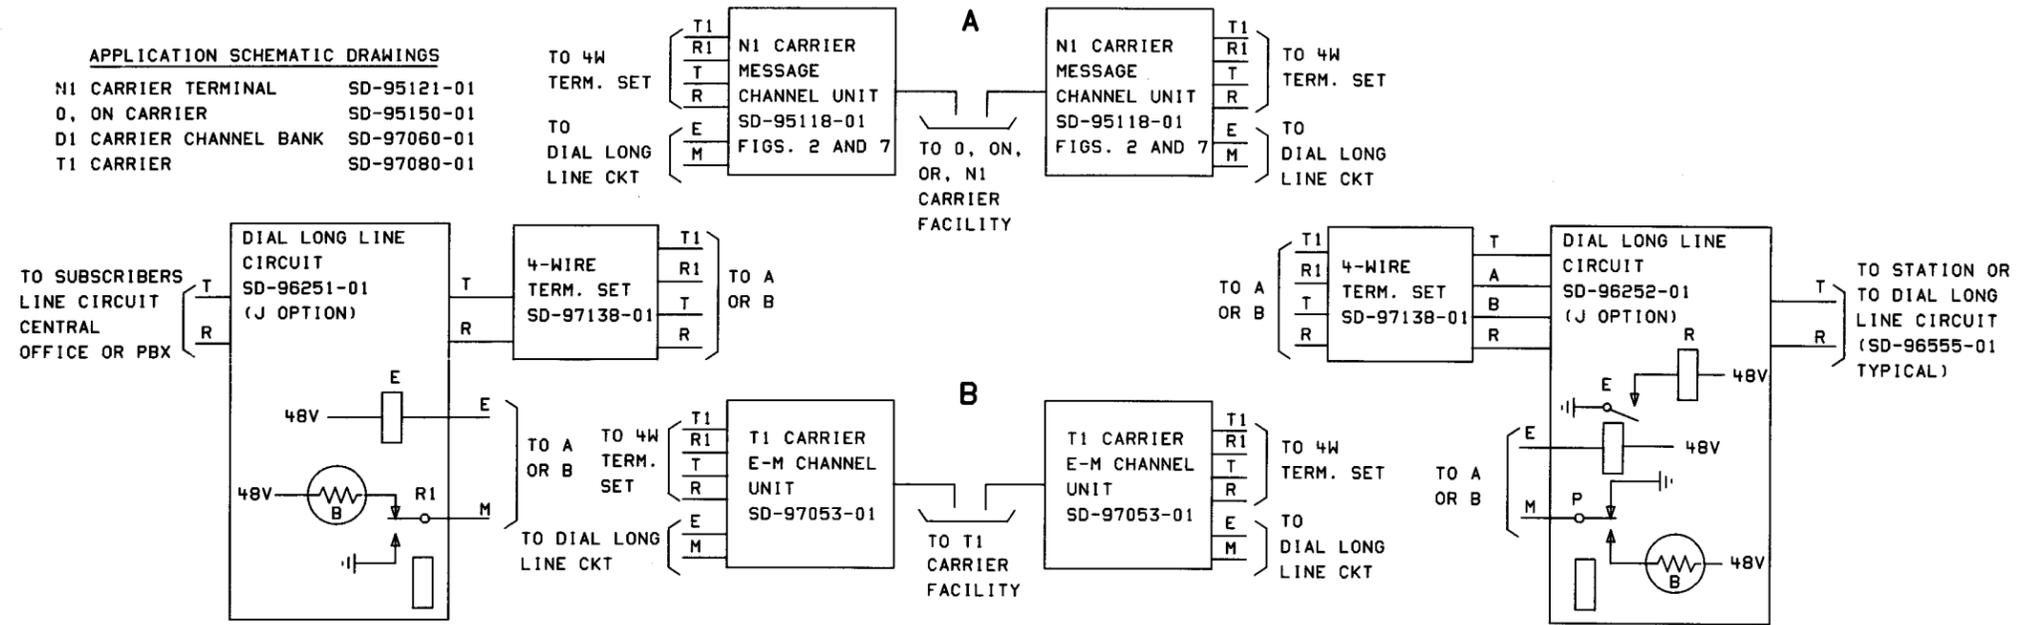

Fig. 3-14—Out-of-Band Signaling O, ON, N, and T1 Carrier Systems Loop Start
**3.103** Yet another form of AC signaling is used by some carrier system and is commonly called "built-in" signaling. Carrier systems such as N, O, and ON have an upper speech band limit of 3100 Hz in a 4000 Hz channel space. This vacant gap from 3100 to 4000 makes it possible to build a signaling system into each carrier channel terminal unit. Since the 3700-Hz tone used in N, O, and ON carrier systems (Fig. 3-14) is outside the speech band the elaborate guard arrangements, needed for in-band signaling to avoid interference from speech, are eliminated.